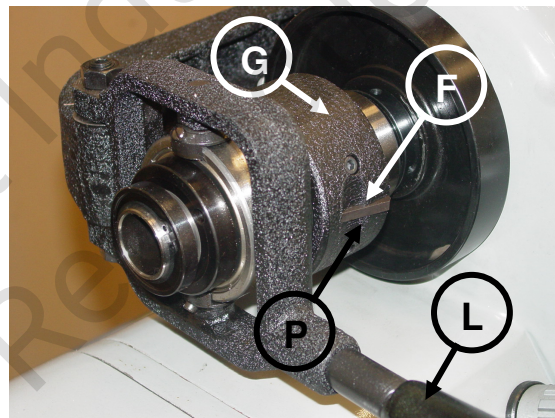

Figure 9-Collet Closer Adjustment
3. Press the Closer Adjusting Finger “F” (Figure 9) down to the point “P” (Figure 9).
4. Guard “G” (Figure 9) forward with the left hand, and hold the collet or stop chuck with the right hand at the same time.
6. Place lever “L” (Figure 9) to the extreme left fixed position. Turn the Shell Guard “G” (Figure 9) toward operator until the work piece is clamped by the collet.
7. Place lever “L” (Figure 9) to the right, the released position. Turn Shell Guard “G” (Figure 9) toward operator, move the Adjusting Finger “F” (Figure 9).
8. Test collet closer’s tension on work piece. If the work piece needs additional gripping pressure, press down on the adjusting finger “F” (Figure 9) and turn Shell Guard “G” (Figure 9) forward and lock. (see figure 9).